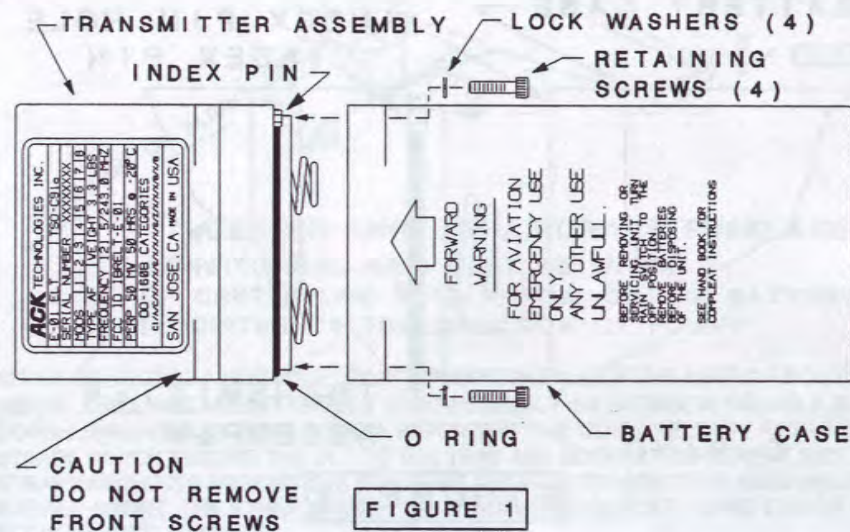

FIGURE 1
1. USING THE 3/32" HEX DRIVER SUPPLIED WITH THE ELT, REMOVE THE 4 RETAINING SCREWS AND SPLIT LOCK WASHERS WHICH ATTACH THE BATTERY CASE TO THE ELT TRANSMITTER ASSEMBLY (FIGURE 1). **CAUTION DO NOT REMOVE THE FRONT SCREWS FROM THE TRANSMITTER ASSEMBLY. IF THE ELT CONTAINS BATTERIES LOOSEN THE SCREWS EVENLY A FEW TURNS AT A TIME UNTIL THE BATTERY CONTACT SPRING PRESSURE IS RELIEVED.**